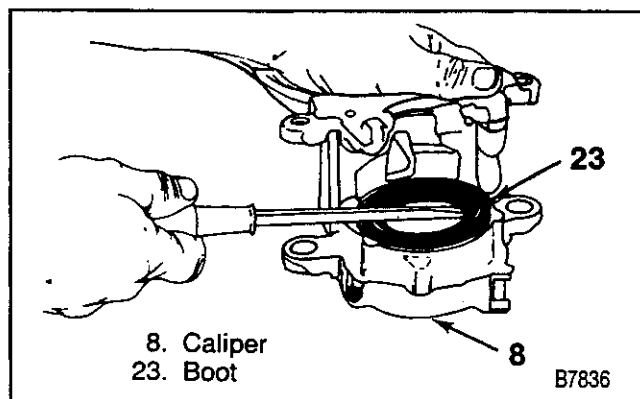

Figure 31—Removing the Boot
4. Boot (23) (figure 31).
5. Piston seal (21).
6. Bleeder valve (20).